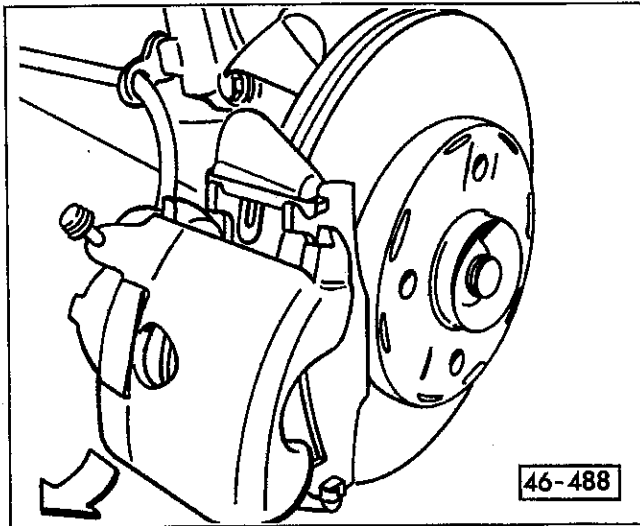

Fig. 6. Caliper being removed from wheel bearing housing. Swing caliper out from bottom first.
2. Remove bolts securing caliper to wheel bearing housing. Swing caliper out from bottom to top. See Fig. 6.